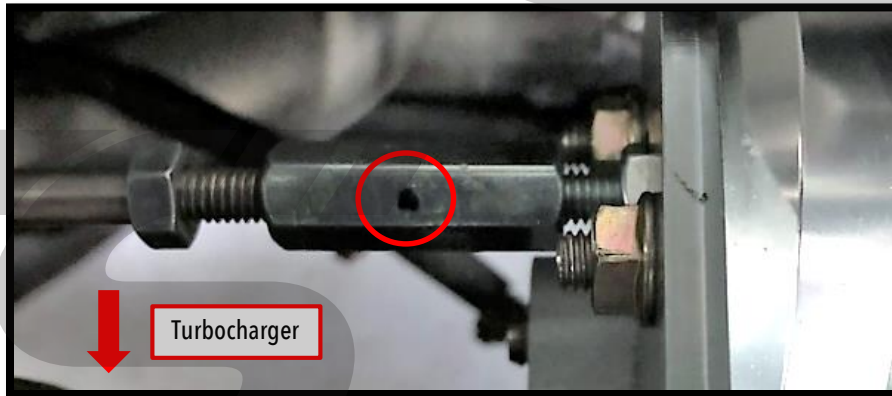

Figure 10i
- m) Attach the two ends of the wastegate actuator rod together by rotating the wastegate arm turnbuckle. Tighten until the turnbuckle no longer rotates easily by hand. Shown connected in **Figure 10i**.
- n) Mark the top edge of the wastegate turnbuckle with a sharpie. This mark is shown in **Figure 10i**.